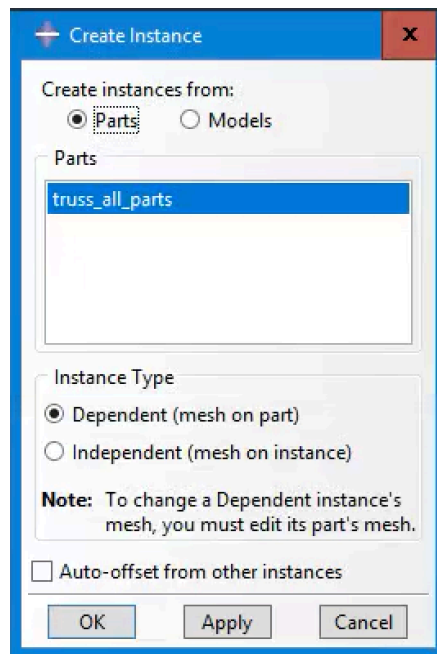

Figure 16 Create an instance
- By clicking on the **Create instance** button, the corresponding dialog box will be appeared (Figure 16). In this example, the whole geometry has been created as one part; therefore, only one instance is enough to be created. Therefore, choose **truss_all_parts** in the **Parts** section and click on **OK**.